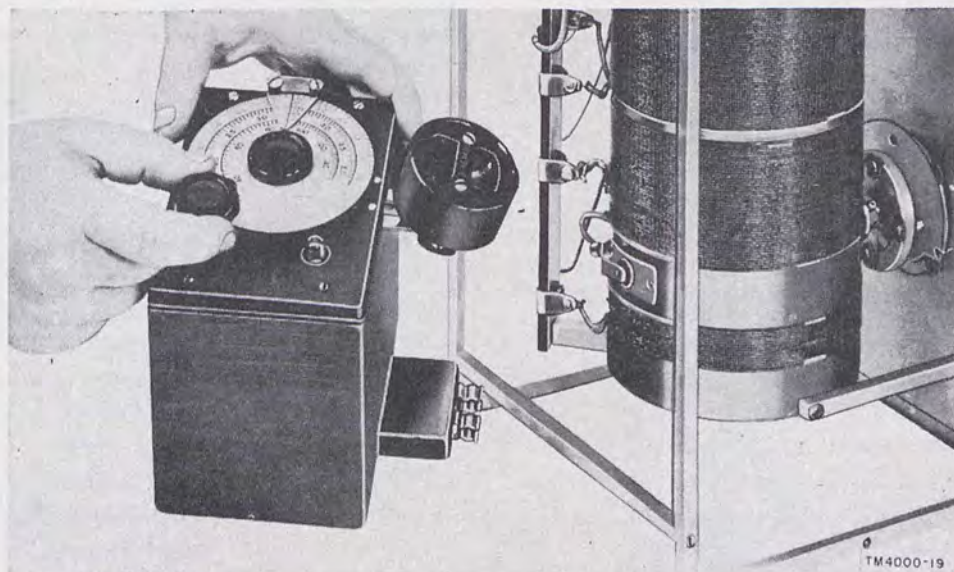

Figure 36. Combination absorption-reaction meter.
67. Combination Absorption and Reaction Wavemeter (fig. 36)